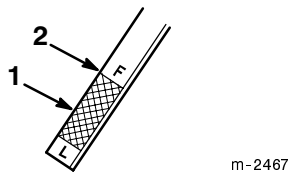

Figure 51
7. Pull the dipstick out and look at the metal end (Fig. 51).